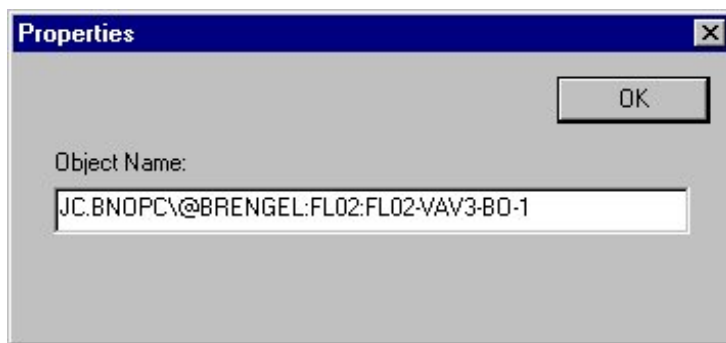

Figure 6-3: Completed Properties Dialog Box
7. In the Object Name field, type in the complete hierarchical path of an object (Figure 6-3).
6. In the Object Name field, type in the complete hierarchical path of an object (Figure 6-3).